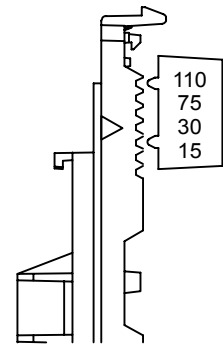

Figure 2: Candela switch
2. Slide the candela switch to the desired candela output (15, 30, 75, or 110 cd) by aligning it with the indicator located beside the switch. See Figure 2.